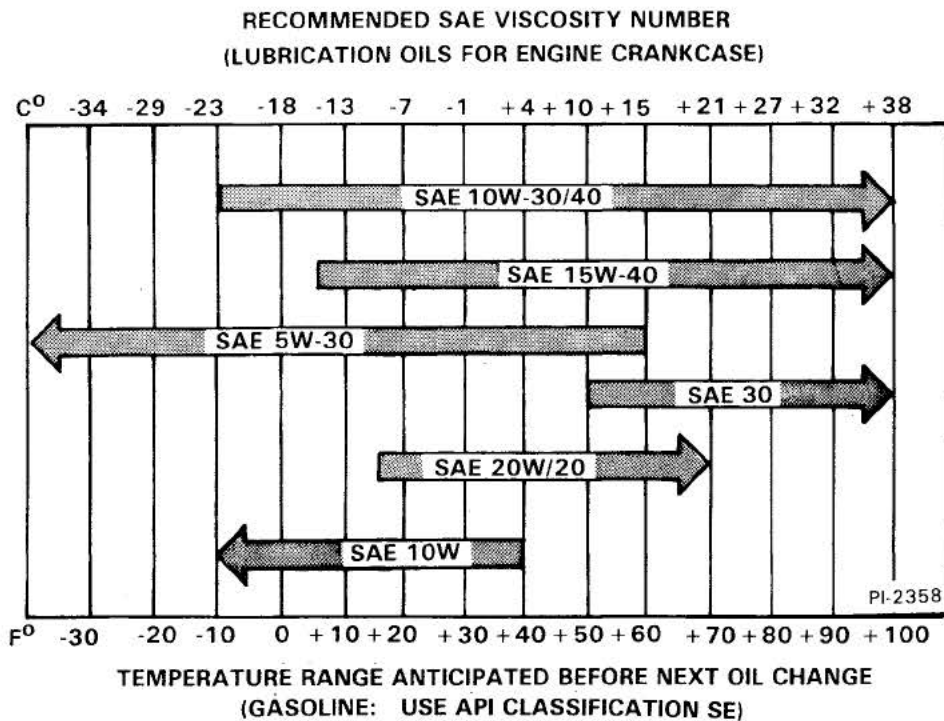

Fig. 47 Engine Service
There is a fuel filter in the fuel line by the valve fuel shut-off valve (Fig. 47, Item 3).
To check the oil level, stop the engine and remove the dipstick from the left side of the engine (Fig. 47, Item 1).
To add oil remove the fill cap (Fig. 47, Item 2) and add the needed amount of oil.
5. Install the oil plug. Remove the oil filler cap (Fig. 47, Item 2). Put 4 quarts (3,8 L) of oil in the engine (See the Oil Chart).